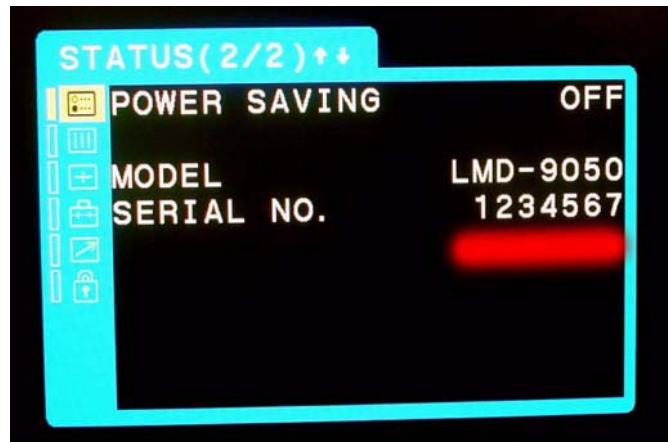

Figure 6
2. Confirm the serial number in the STATUS (2/2) menu. (See Figure 6.)